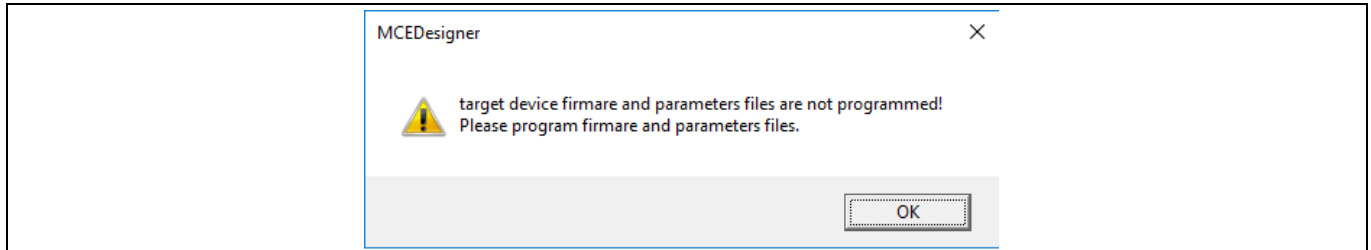

Figure 6 MCEDesigner warning message
4. (In case of a blank IC) If the firmware has been erased from the IMD111T-6F040, the following warning message will pop up “Target device firmware and parameters file are not programmed! Please program firmware and parameters file” as Figure 6. Then you can program the firmware and parameters as described in Step 5. If it is not a blank IC, no such message will be indicated.